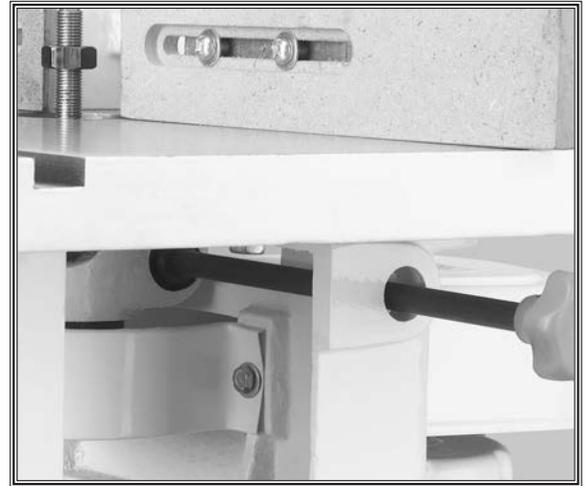

Figure 18. Spindle lock knob.
1. Loosen spindle lock knob located on side of shaper, as shown in **Figure 18**.